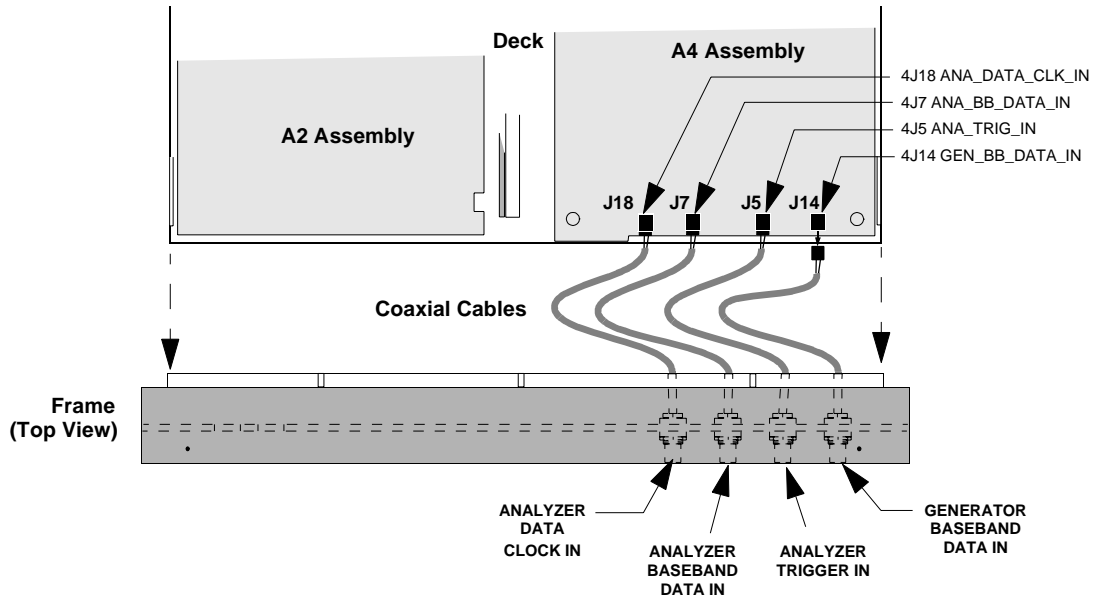

Figure 21 **Disconnecting the Coaxial Cables from the A4 Assembly**
4. Pull the frame away from the deck and disconnect the coaxial cables from the A4 assembly, see figure 21.
This completes the procedure for removing the front panel. When reassembling the front panel frame, use table 5 and figure 21 to reconnect the cables of the front panel to the A4 assembly.